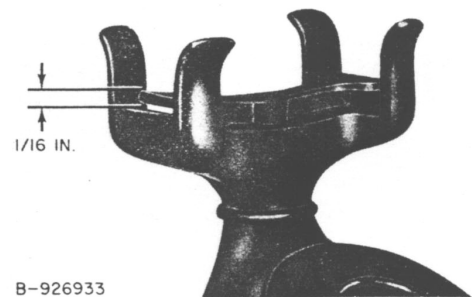

Fig. 6—Types A, B, D, and E Mounting Margin
**3.03** When the plunger is slowly released on D-type mountings, no contacts shall make or break until the plunger has raised at least 1/16 inch (Fig. 6).